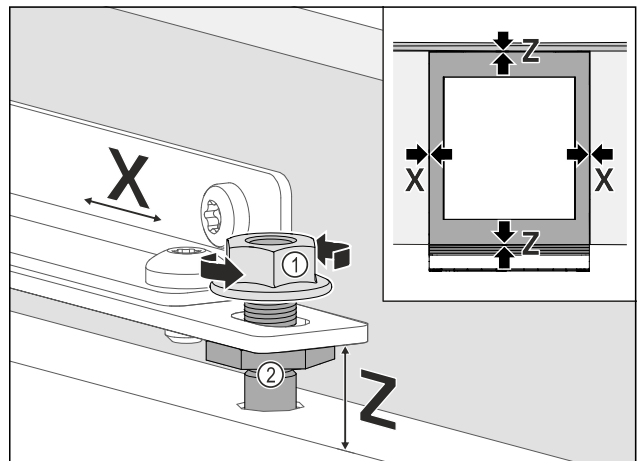

Fig. 75
- Align the unit door laterally: Loosen the lock nut Fig. 75 (1), move the unit door in X direction.
- Tighten the lock nuts Fig. 75 (1).
- Align the height Z and lateral inclination of the unit door: Set the adjustment bolt Fig. 75 (2).